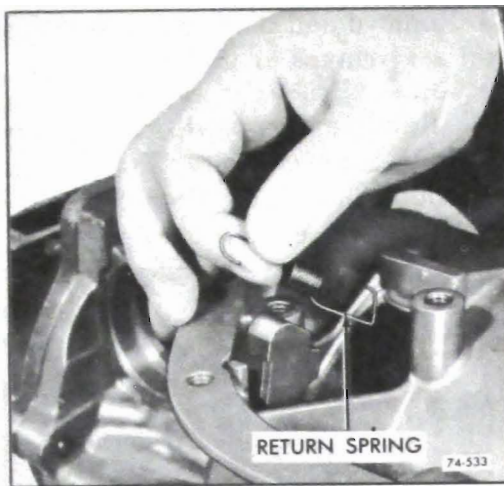

Figure 76-532
g. Remove parking pawl return spring. See Figure 76-532.